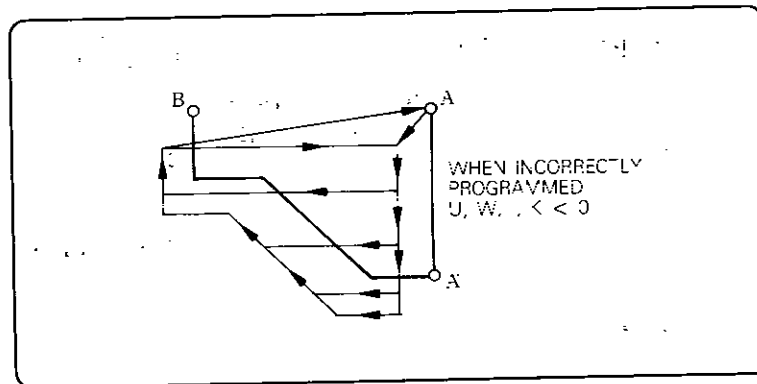

Fig. 2.13.32 Infeed when the Sign of U, W, I, or K is Incorrect
**NOTE** If the sign of U, W, I, or K is incorrect, excess infeed as shown in Fig. 2.13.32 occurs.